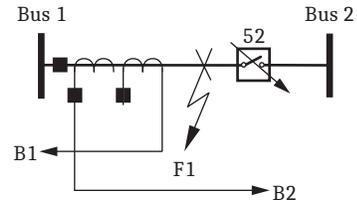

Figure 15 A Single CT With Two CT Cores Configured in Overlap
- A single CT with two cores configured in overlap (Figure 15)
Configure any one of these schemes without using external auxiliary relays. Figure 14 and Figure 15 also show the tie breaker closing onto an existing fault, F1. The SEL-487B includes tie-breaker logic to prevent the loss of both zones for this fault.